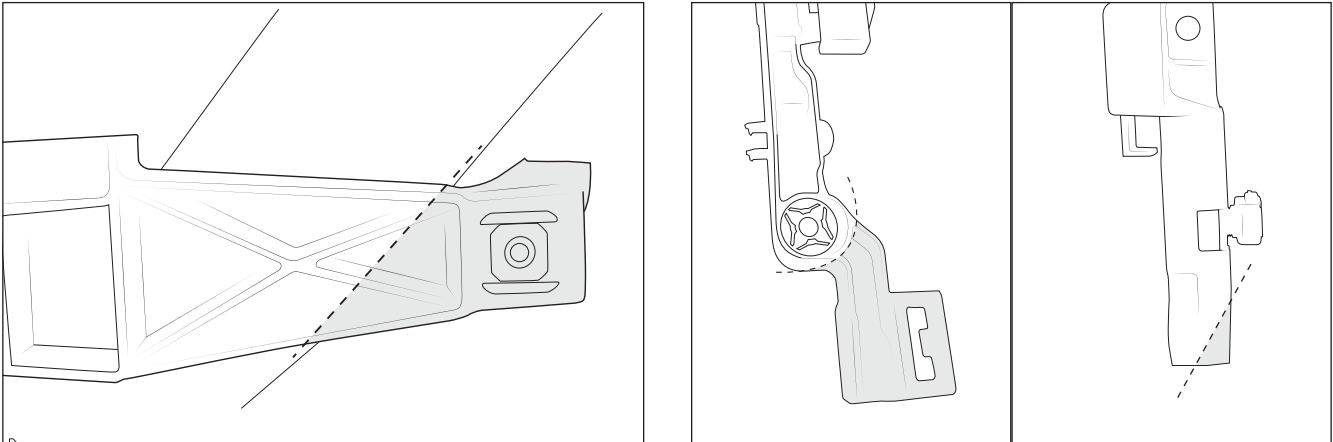

Figure 22 Left: Horizontal Bracket Right: Vertical Bracket (driver side shown)
- A. Trim both the vertical and horizontal plastic brackets of the headlight framing, removing the shaded portions as shown (fig. 22).